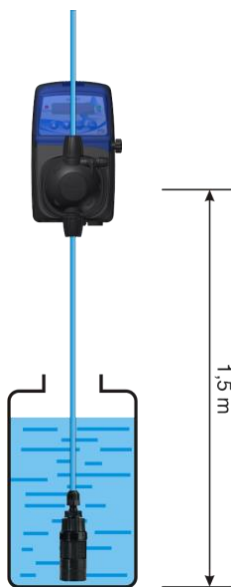

Figure 1
- Locate the pump as shown in Figure 1, bearing in mind that it can be mounted either below or above the level of the chemical to be dosed within the maximum limit of 2 meters (we suggest 1.5 meters). The injection point must always be placed higher than the chemical to be injected.